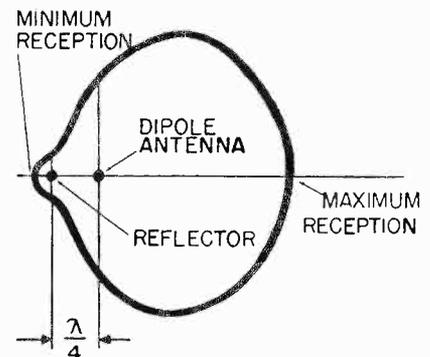

Fig. 3B The horizontal pattern of a dipole and reflector.
1. It will almost completely cancel reception from the rear (Fig. 3B).